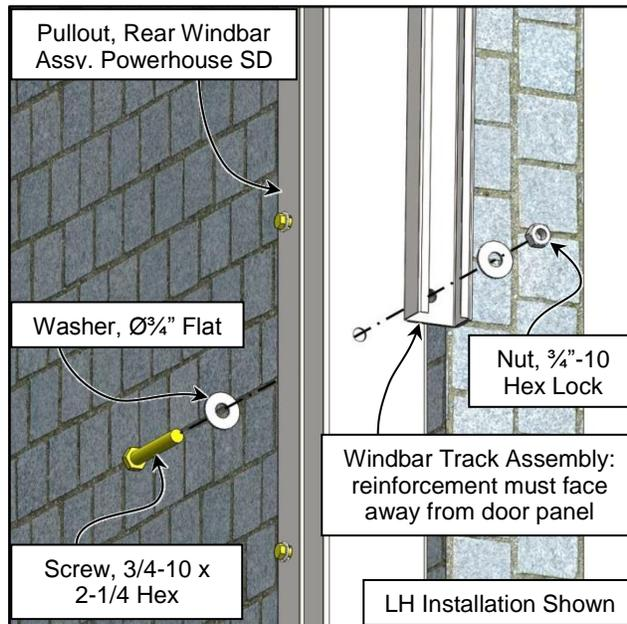

Figure 65
3. Align the bottom holes of the Windbar Tracks with the bottom track mounting holes in the pullouts. Mount the hardware as shown and identical to the previous step. (See Figure 65)
4. Remove the bottom  $\frac{3}{4}$ " fastener hardware from the Lower Windbar Track Mounts. (See Figure 65)
5. Guide and raise the Windbar Assembly into the Windbar Tracks and raise it enough to clear the  $\frac{3}{4}$ " fastener holes. Re-align the holes of the Windbar Tracks and the rear side column pullouts. (See Figure 65)
6. Reinstall the  $\frac{3}{4}$ " fastener hardware as shown. (See Figures 65 and 66)